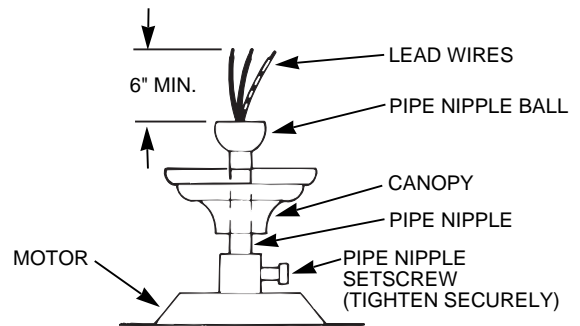

FIGURE 5B
**A.** Insert pipe nipple through canopy and feed wires from top of motor through pipe nipple. Screw pipe nipple into fan until tight (at least 4-1/2 turns). The setscrew locking the pipe nipple to motor must be tightened very securely. See Figure 5B. Failure to tighten screw could result in fan falling.